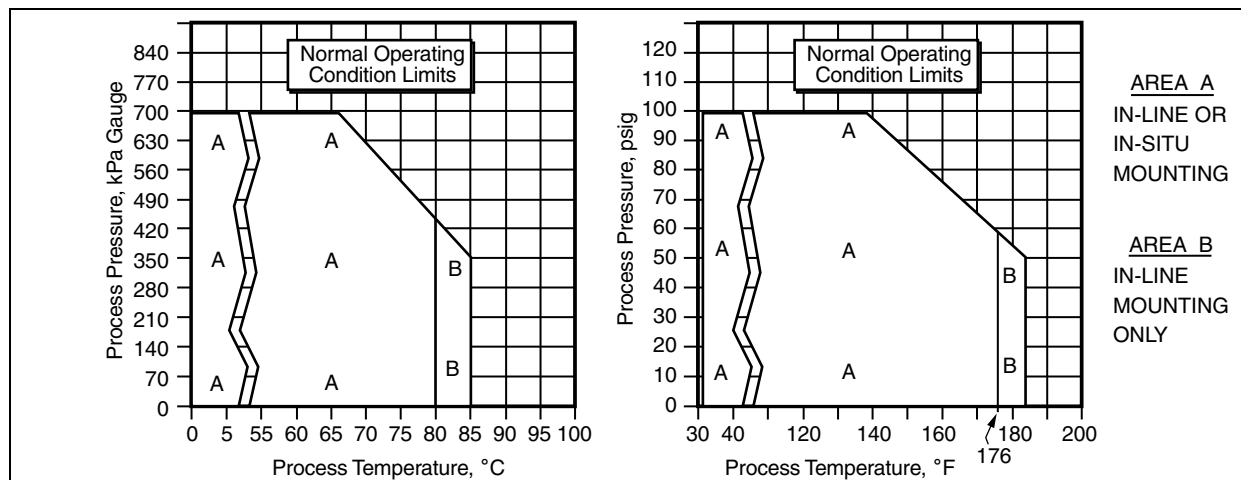

Figure 1. Process Pressure-Temperature Limits
The limits shown in Figure 1 are applicable to all sensors, accessories, and material selections.
(a) See Figure 1 for pressure-temperature rating.
- (a) See Figure 1 for pressure-temperature rating.
The electrode protection sleeve protects the glass electrode from contacting the bottom or side of a tank. This PVDF sleeve is applicable to submersible applications, and is usable within the pressure-temperature limits shown in Figure 1. Specify Foxboro Part Number BS805TJ.